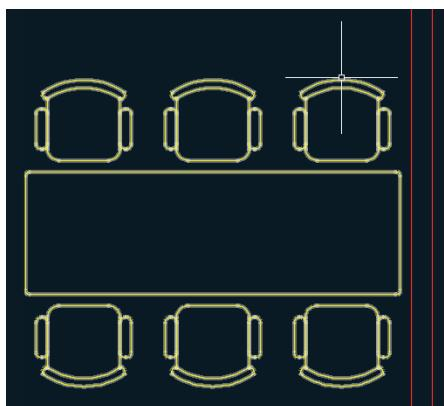

FIGURE 7.26 Reconstituted group after its constituent objects have been deleted, added, and stretched
12. Click the Group Selection On/Off toggle in the Groups panel (turning it on). Hover the cursor over the desk, and observe that the entire group is highlighted (see Figure 7.26).